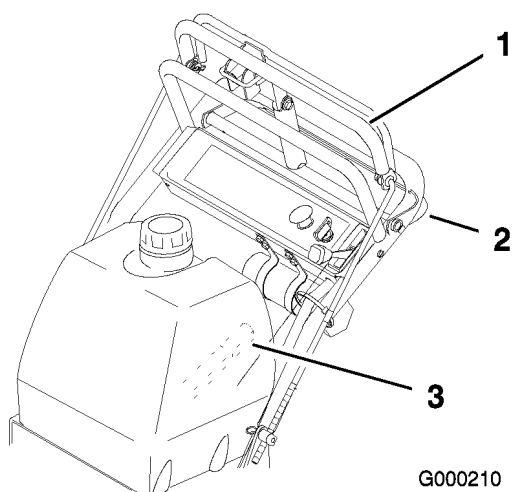
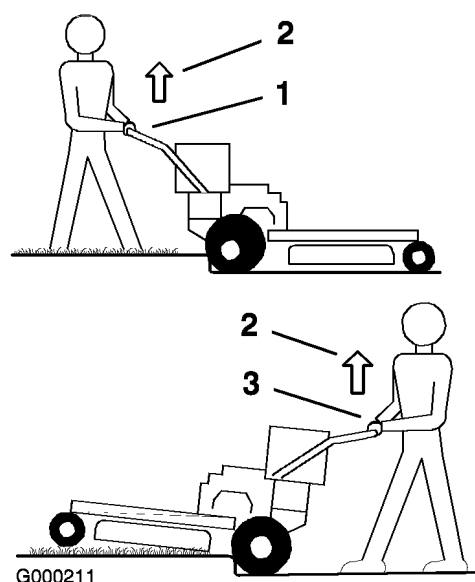

Figure 22
Figure 23
1. To go forward, move the shift lever to a forward gear (Figure 22).
3. Slowly press on the upper control bar to move forward (Figure 22).
To go straight, apply equal pressure to both ends of the upper control bar (Figure 22).
To turn, release pressure on the upper control bar side in the direction you want to turn (Figure 22).
3. Slowly squeeze the lower control bar and lower handle together to move rearward (Figure 22).
3. Drive machine until the castor wheels contact curb (Figure 23).
4. Lift the front of the machine by pushing down on the lower handle (Figure 23).
5. Drive the machine until drive wheels contact the curb (Figure 23).
6. Lower the front of the machine (Figure 23).
7. At the same time engage the lower control bar and lift up on the lower handle to drive over the curb (Figure 22 and Figure 23).
3. Drive the machine until drive wheels contact curb (Figure 23).
4. At the same time engage lower control bar and lift up on the lower handle (Figure 22 and Figure 23).